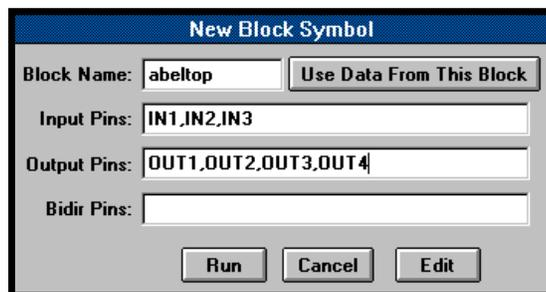

Figure 1-22. New Block Symbol Dialog Box
42. In the schematic editor, select **Add** ⇒ **New Block Symbol...** In the dialog box that appears, type **abeltop** in the Block Name text box, **IN1,IN2,IN3** in the Input Pins text box, and **OUT1,OUT2,OUT3,OUT4** in the Output Pins text box (Figure 1-22). Click **Run**.